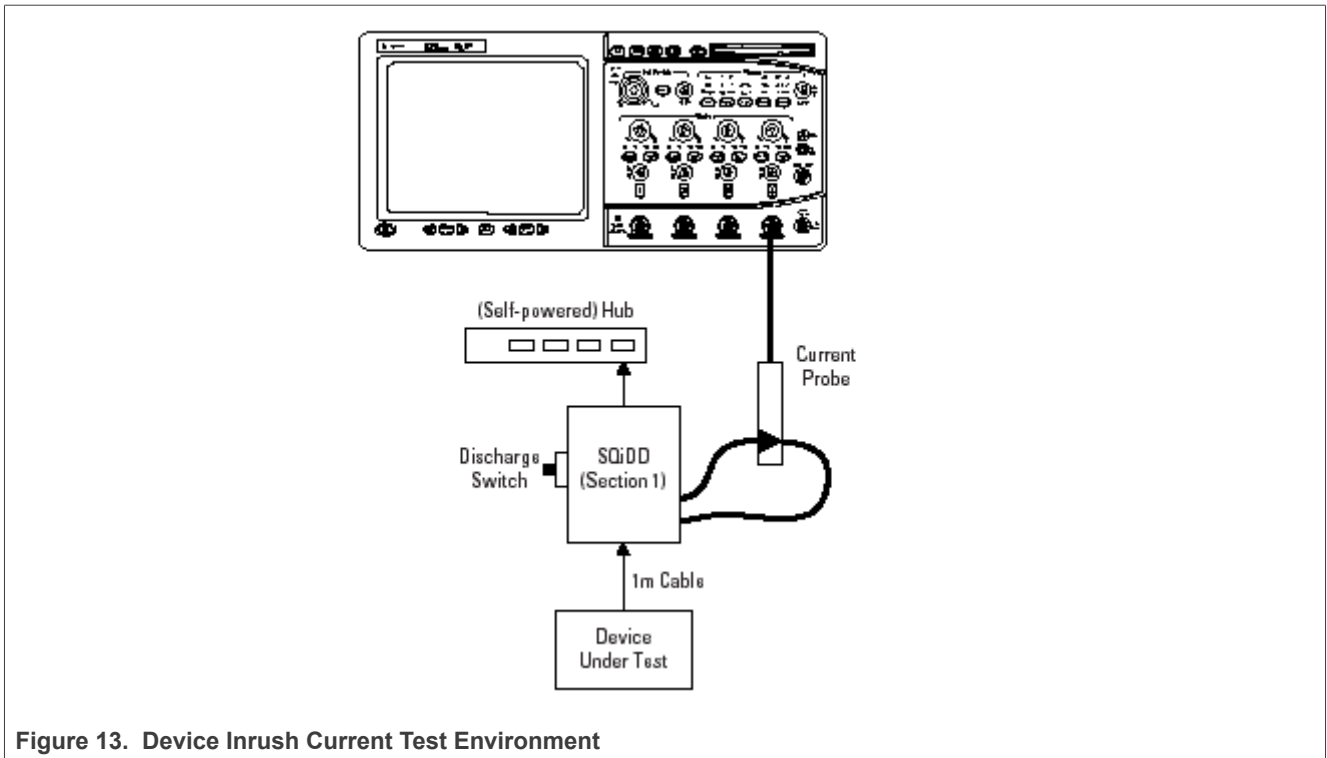

Figure 13. Device Inrush Current Test Environment
1. Connect the equipment and test fixture as shown in Figure 13, use the current probe to capture the **VBUS** current waveform, make sure that the probe direction is the same.